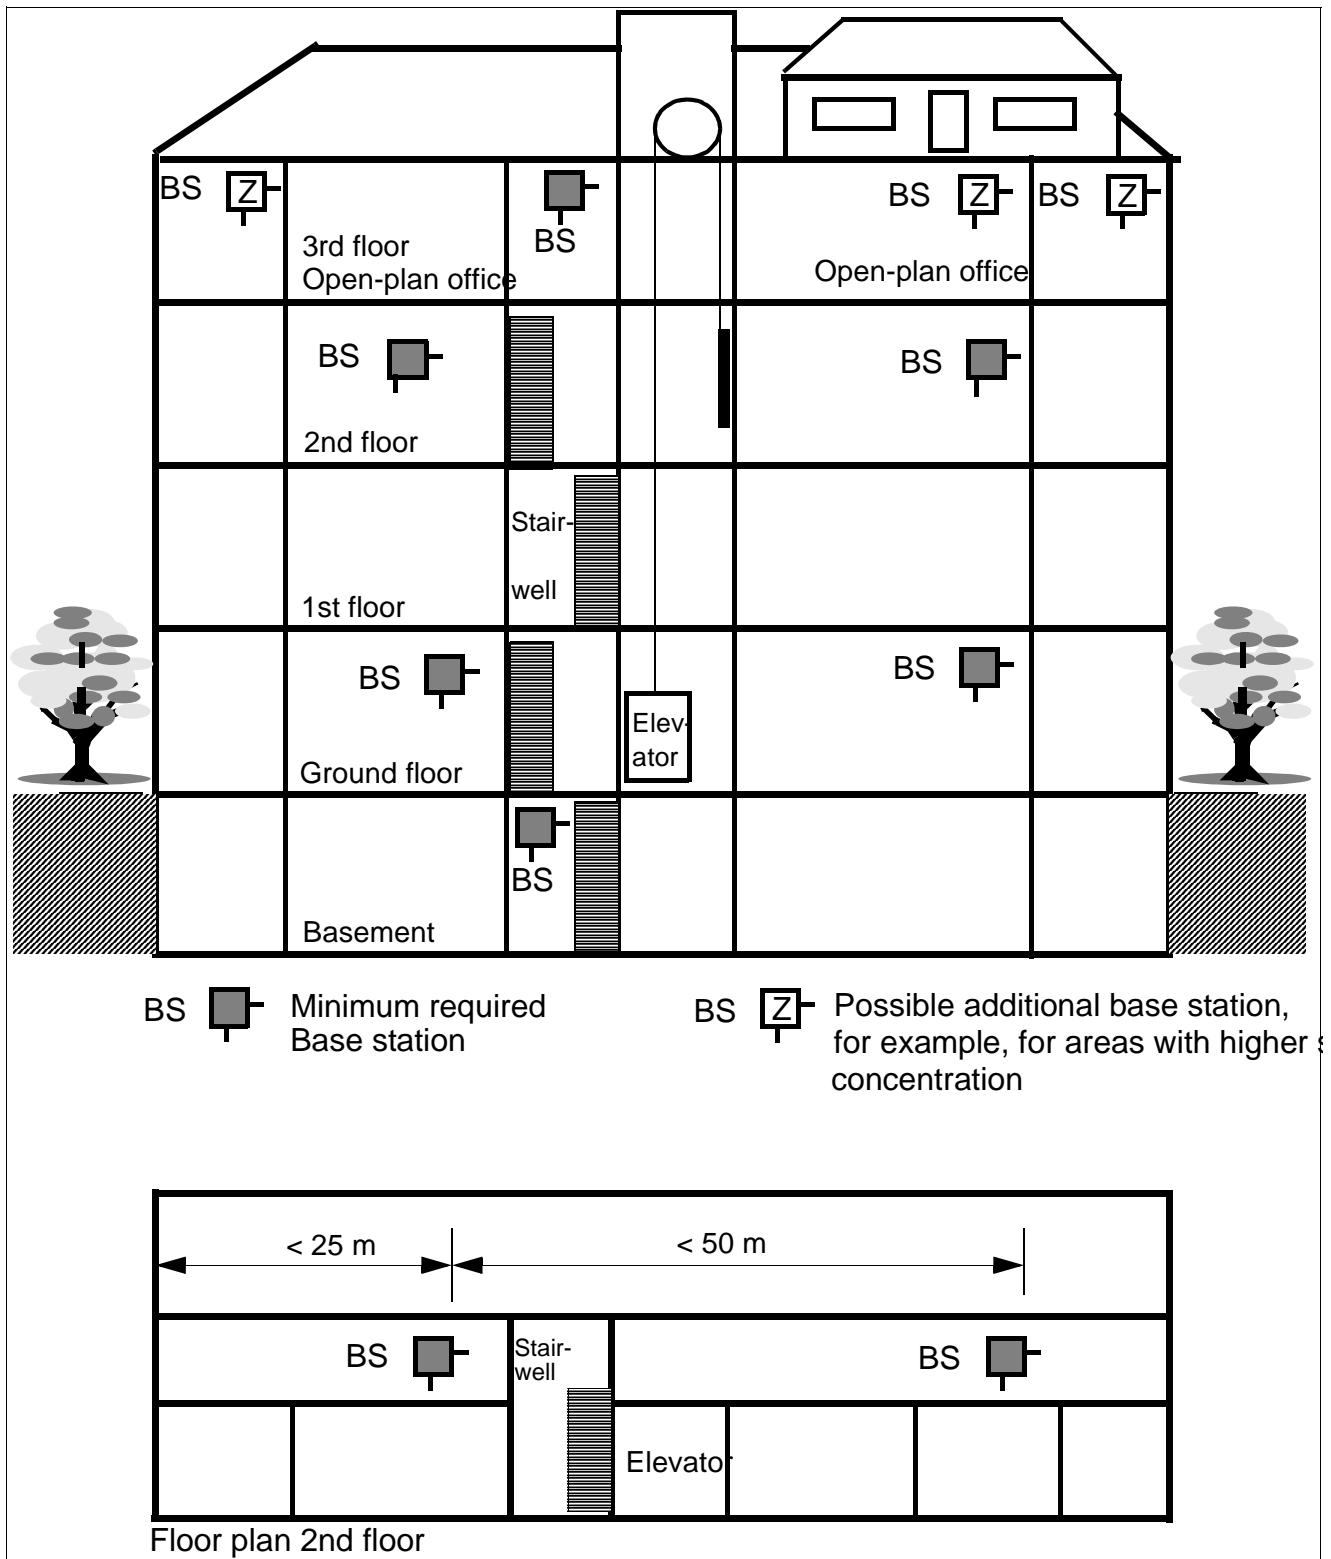

Figure 12
- For interiors of brick or light construction materials (Figure 12)
- If additional base stations are needed because of a large number of mobile telephones, see Figure 12.
- Within halls or open-plan offices (Figure 12)